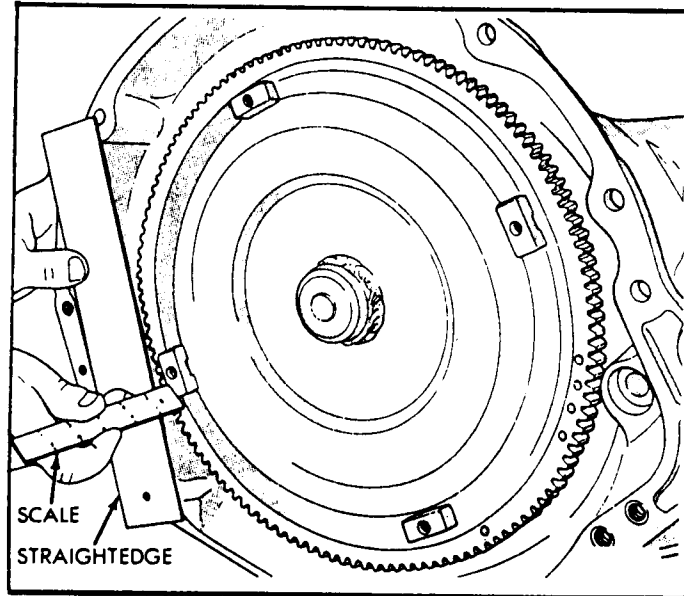

Figure 49
81. Install the torque converter as shown in Figure 49.
82. Surface of converter lugs should be 1/2" to the rear of straight edge when the converter is fully seated as shown in Figure 49.